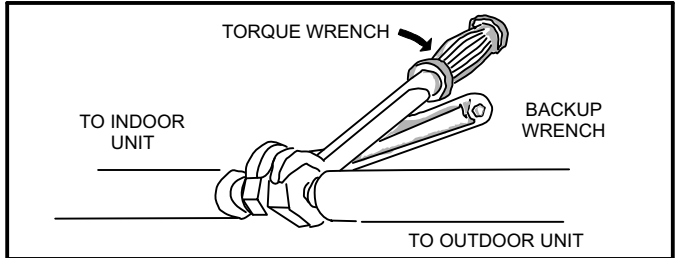

Figure 6. Tighten Flare Nut
- 7 - Once snug, continue another half-turn on each nut which should create a leak-free joint. A torque wrench may be used to tighten flare nuts using table 2 recommendations. (see figure 6). **Do not**